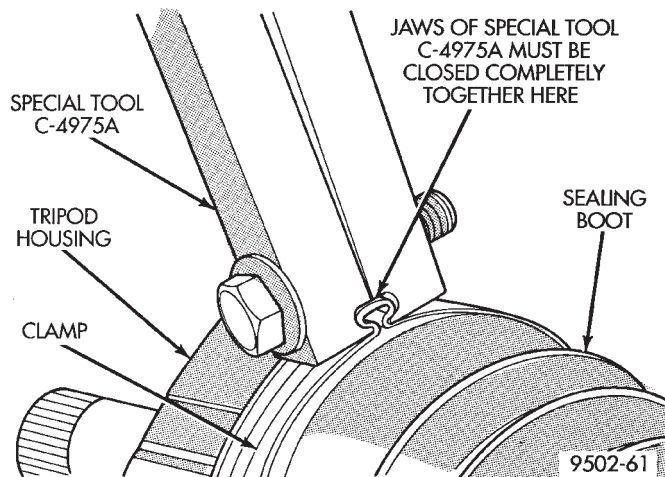

Fig. 39 Sealing Boot Retaining Clamp Installed
- Tighten nut on crimping tool C- 4975-A until jaws on tool are closed completely together, face to face (Fig. 39).